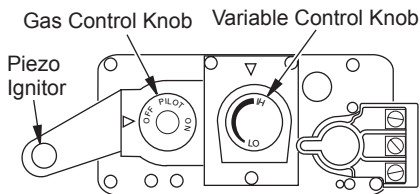

Figure 45 - Control Valve
- Turn gas control knob counterclockwise ↶ to PILOT (see Figure 45).
- Push in gas control knob all the way and hold. Immediately light pilot by repeatedly pressing piezo spark ignitor until a flame appears. Continue to hold for about one (1) minute after pilot is lit. Release gas control knob and it will pop back. Pilot should remain lit. If it goes out, repeat steps 5 through 8.